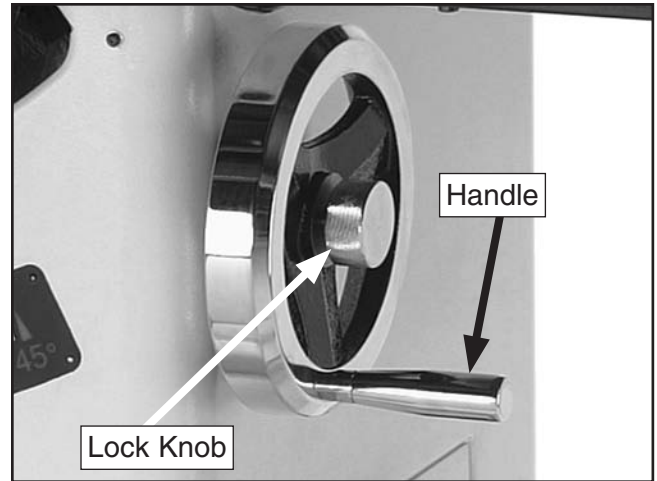

Figure 13. Handwheel installed.
3. Thread the handwheel lock knob into the center of the handwheel and tighten, then install the handle into the handwheel using a 14mm wrench (see **Figure 13**).